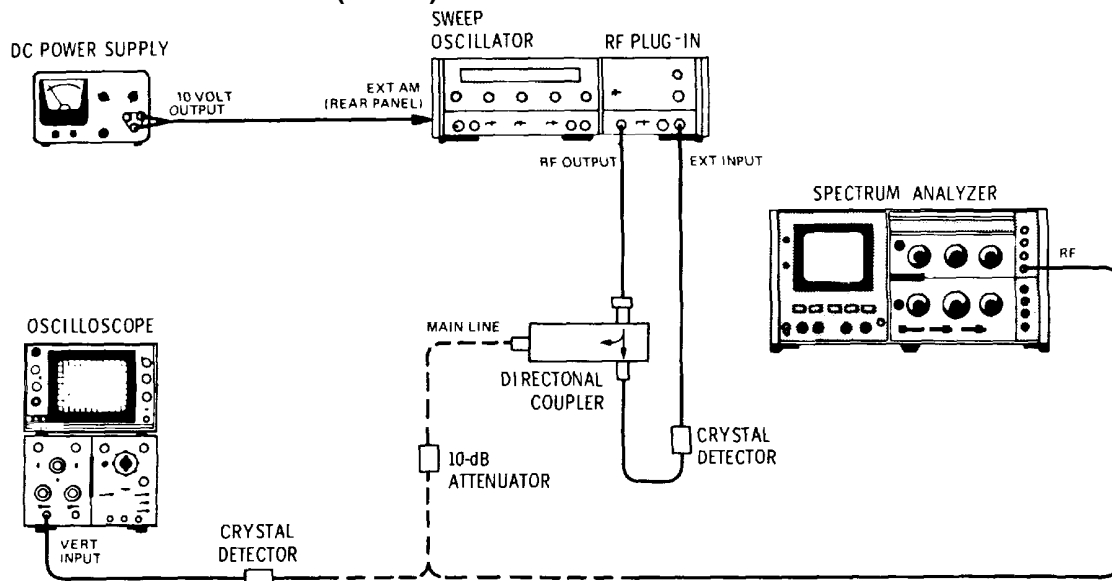

Figure 4-14. Amplitude Modulation Test Setup
- h. Connect oscilloscope and crystal as shown in Figure 4-14.